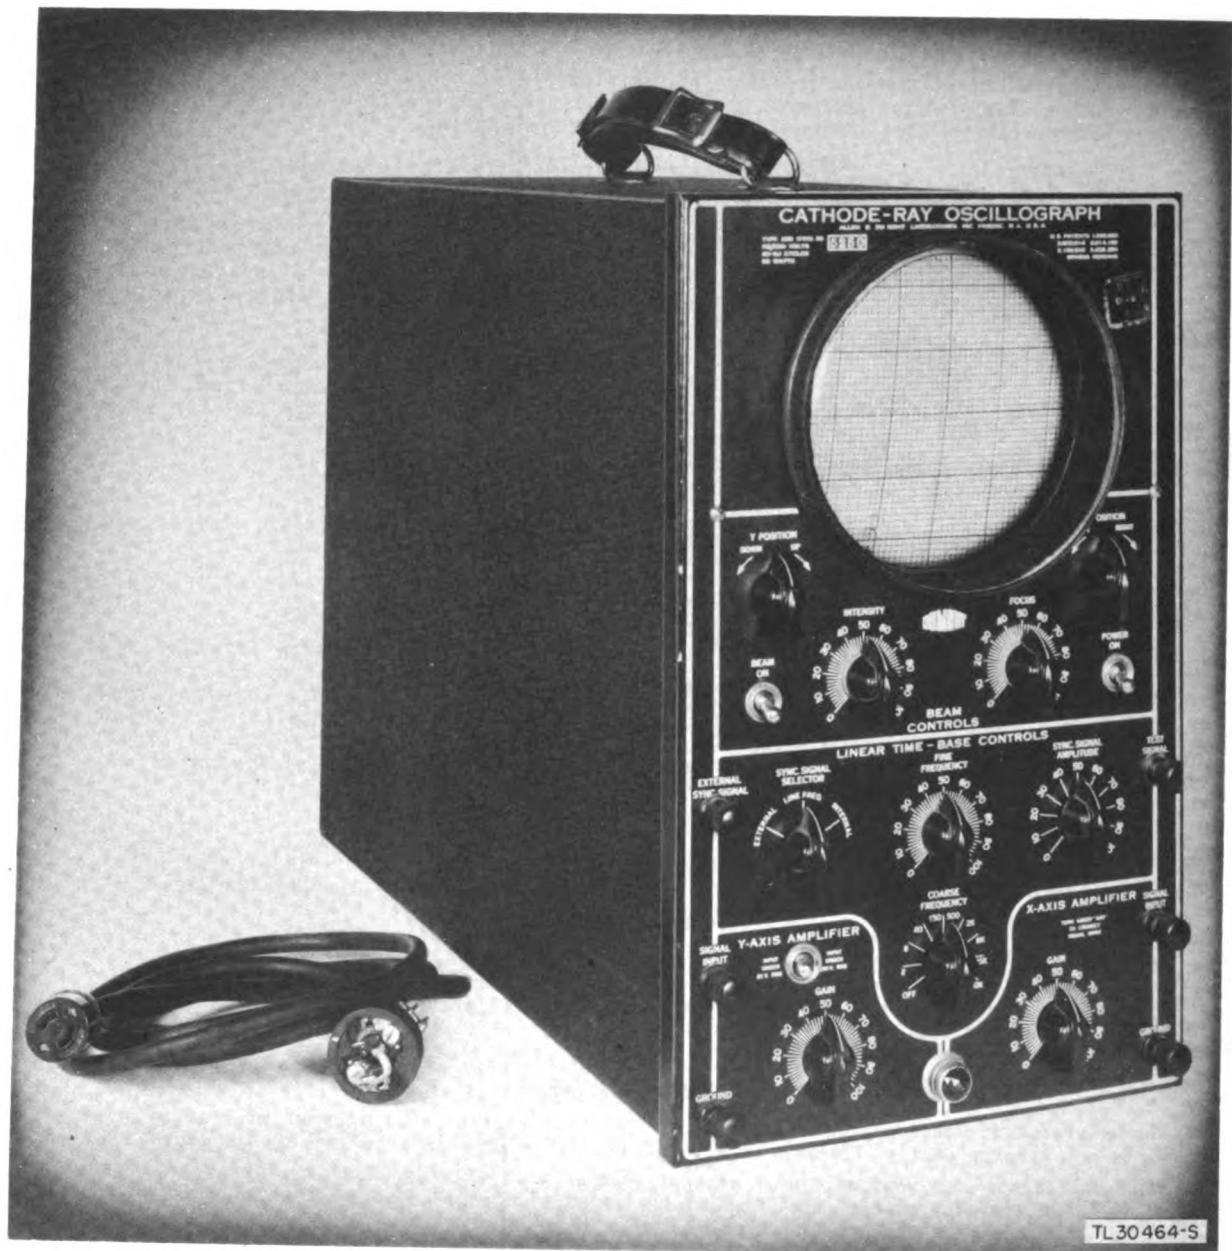
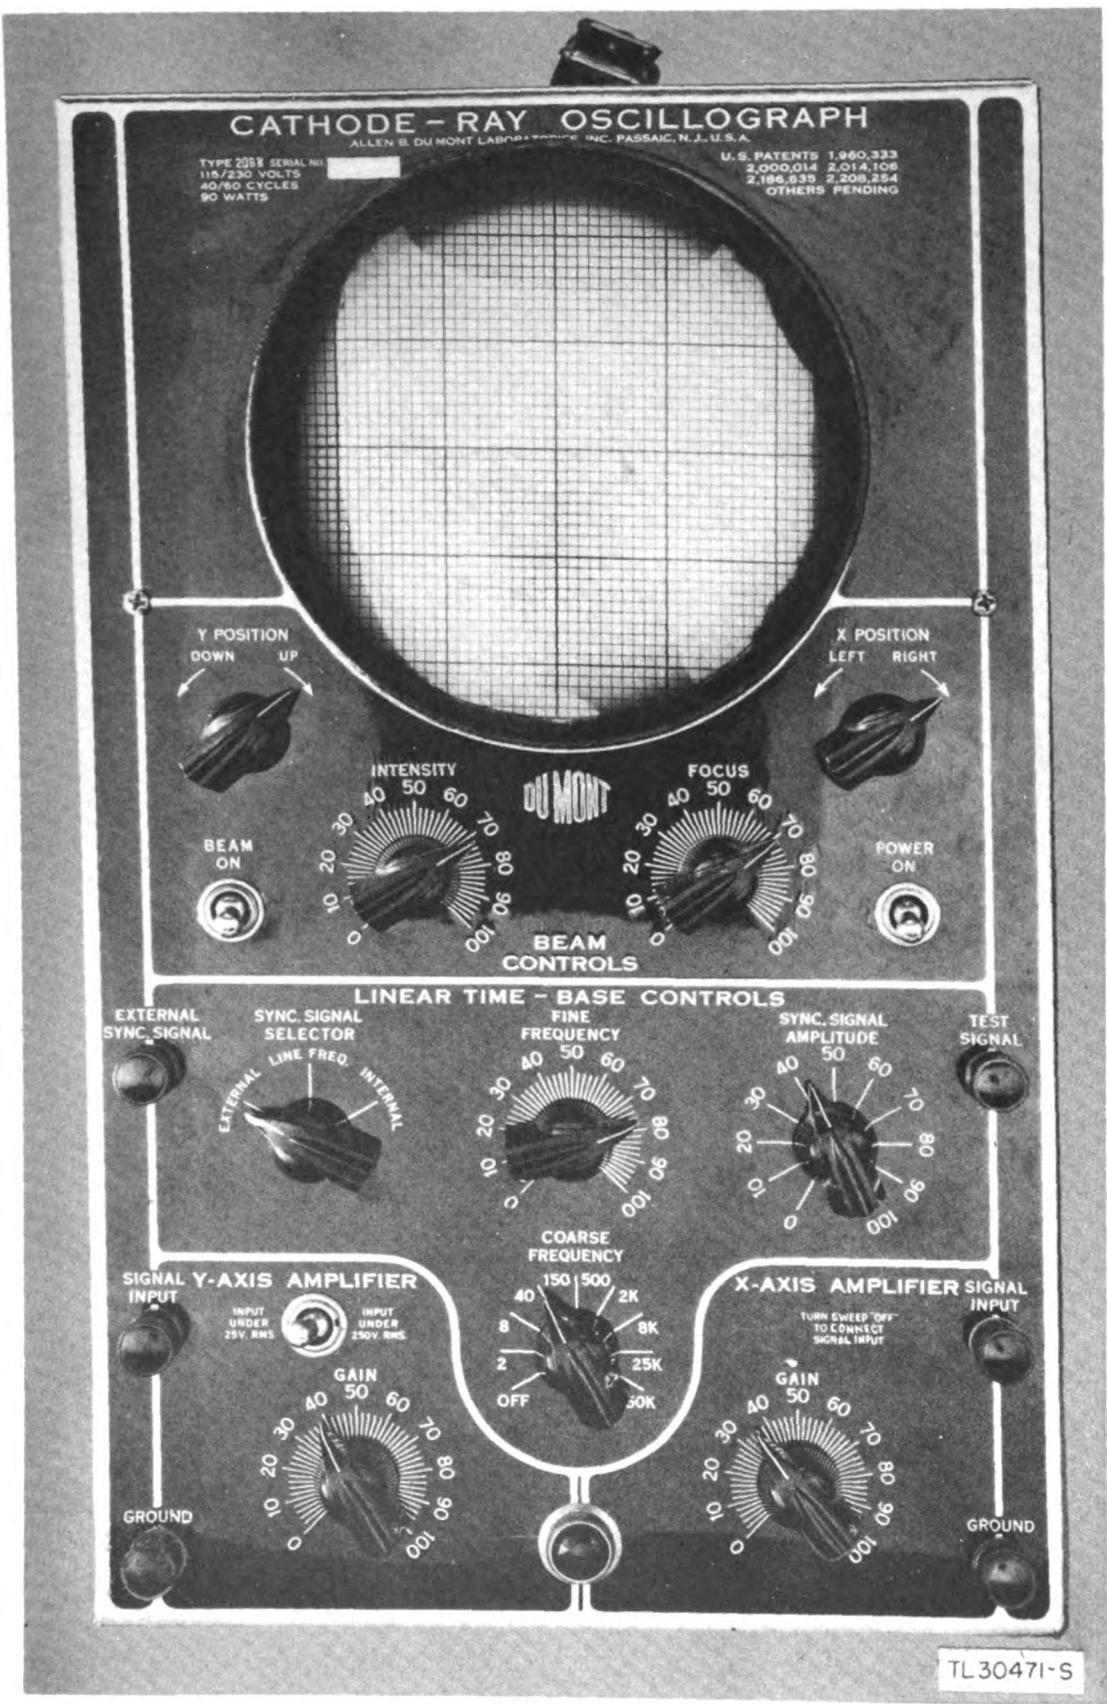
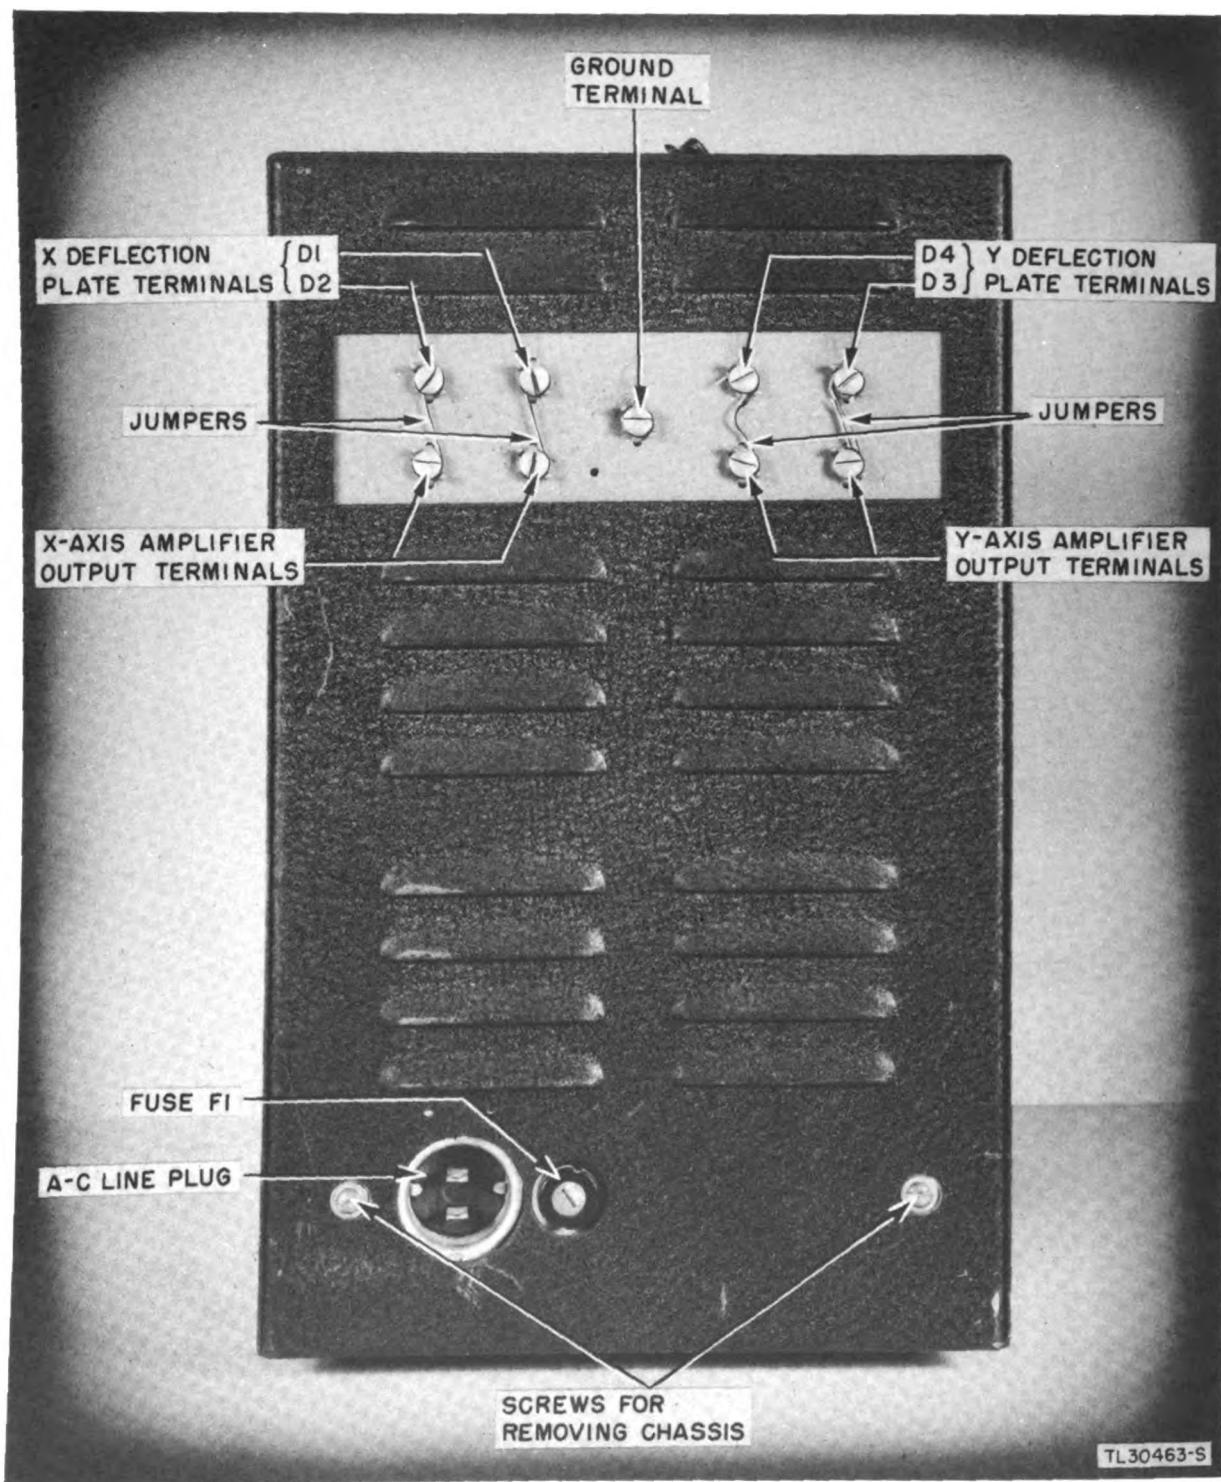

Figure 1. Oscilloscope I-245-B.
Figure 2. Oscilloscope I-245-B, front view.
Figure 3. Oscilloscope I-245-B, rear view.
Oscilloscope I-245-B is the Du Mont type 208-B cathode-ray oscilloscope (fig. 1). It is used for viewing waveforms and checking frequencies and phase relations at various test points in radio and radar sets. It consists of a cathode-ray tube using electrostatic focusing and deflection and connected in a conventional cathode-ray oscilloscope circuit. The instrument is mounted in a metal case with the operating controls located on the front panel. The screen of the cathode-ray
The oscilloscope is mounted in a black wrinkle-finished steel cabinet supplied with a carrying handle (fig. 1). All of the controls and the input connection terminals for both amplifiers and the synchronizing circuit are available on the front panel (fig. 2). Direct connection to the deflecting plates may be made by means of terminals at the back of the case (fig. 3). Access to the inside
Before handling Oscilloscope I-245-B, carefully read the instructions covering its use; it is a delicate electrical instrument and must be handled with care. Pay particular attention to all cautions. They are inserted to guide the user and to protect the equipment. Before turning on the oscilloscope, set the controls as follows (fig. 2):
10. STARTING THE OSCILLOSCOPE (fig. 2).
(1) **Y SIGNAL INPUT.** Signals for Y-deflection within the frequency and voltage range of the Y-amplifier (par. 2) are normally connected between the Y SIGNAL INPUT terminal and the GROUND terminal (fig. 2). The amplitude of deflection produced then depends upon the setting of the Y attenuator and Y GAIN controls, and these are adjusted until the desired deflection is produced.
(2) **Direct Deflection.** Signals may be connected directly to the Y-deflection plates of the cathode-ray tube by using the Y-deflection plate terminals (D3 and D4) on the terminal board at the back of the instrument (fig. 3). The jumper between the upper and lower terminal of each pair is disconnected, and the connections are made to the upper terminals. If the signal voltage is being measured with respect to ground, D4 should be grounded and the signal connected to D3. Connect a 5- to 10-megohm resistor from D3 to the ground terminal. If the signal is being measured between two points neither of which is at ground potential, each signal lead is connected to a deflection plate terminal, and a 5- to 10-megohm resistor is connected from each terminal to ground. If the signal is directly coupled to the deflection plate terminals, d-c voltages from the signal source will deflect the beam from its normal centered position. If this is undesirable, the signal may be capacitively coupled to the terminal by inserting a capacitor between the signal voltage and the terminal. Normally the Y POSITION control has no effect when the signal is directly connected, but it may be used when the signal source has high impedance by replacing the jumpers normally used with 5- to 10-megohm resistors. Small bypass capacitors should then be connected from the two lower terminals to ground.
(1) **X SIGNAL INPUT.** When the COARSE FREQUENCY control is set to its extreme counterclockwise or OFF position, the X-axis amplifier is connected between the X SIGNAL INPUT terminal and the GROUND terminal (fig. 2). The amplitude of horizontal deflection produced then depends upon the X GAIN control; this control is adjusted until the desired deflection is produced. The range of signal voltage and frequency which may be used to give X-axis deflection is given in paragraph 2. *If these values are exceeded, the X-amplifier may be overloaded and the pattern distorted.*
(2) **Direct Deflection.** Signals may be connected directly to the X-deflection plates of the cathode-ray tube by using the X-deflection plate terminals (D1 and D2) on the terminal board at the back of the instrument (fig. 3). If the signal is unbalanced, D1 should be grounded. Otherwise the information given in subparagraph a (2) above for Y-axis direct deflection applies to the X-axis as well.
c. **Sweep Generator.** The sweep generator is connected to the X-axis amplifier when the COARSE FREQUENCY control is set in any position except OFF. It produces a horizontal deflection of the beam by applying a saw-tooth voltage to the X-deflection plates through the X-amplifier. The resulting horizontal deflection consists of a uniform motion of the beam from left to right on the face of the tube, followed by a rapid return of the beam to its starting point. This is repeated at a rate depending upon the setting of the COARSE and FINE FREQUENCY controls (fig. 2). When the sweep is used to provide a timebase, it is ordinarily adjusted by means of the frequency controls to the same frequency as that of the Y-axis signal, or a frequency which is some simple fraction of the signal frequency, such as one-half or one-third. This produces a stationary pattern on the screen.
d. Synchronization. To hold the pattern stationary on the screen, it is necessary to apply a small synchronizing signal to the sweep generator. This signal is usually of the same frequency as the signal being observed, but may be a multiple or submultiple of that frequency if external synchronization is being used. This is accomplished by means of the SYNC SIGNAL AMPLITUDE and SYNC SIGNAL SELECTOR controls and the EXTERNAL SYNC SIGNAL terminal (fig. 2).